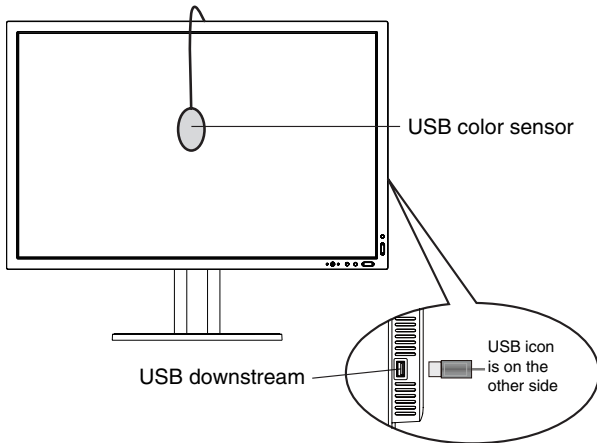

Figure S.1
3. Plug-in the USB color sensor to the side (or bottom when Portrait orientation) USB downstream port (**Figure S.1**).
6. The procedure will ask for the USB color sensor to be placed on the center of the display panel (**Figure S.3**). Tilt the display panel approximately 5° backward and place the USB color sensor in the center of the display panel (**Figure S.1**).
3. The procedure will ask for the USB color sensor to be placed on the center of the display panel (**Figure S.2**). Tilt the display panel approximately 5° backward and place the USB color sensor in the center of the display panel (**Figure S.1**).